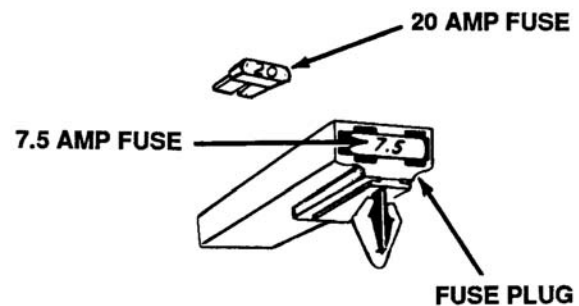

Figure 3-7. Fuse Holder
- 600, 700 and 800 Series Only.** The circuit breaker is being replaced by a standard automotive type fuse. Nonregulated electrical systems will use a 7-1/2 amp fuse. On regulated electrical systems, a 20 amp fuse will be used. This will not retrofit prior production units. See Figure 3-7.